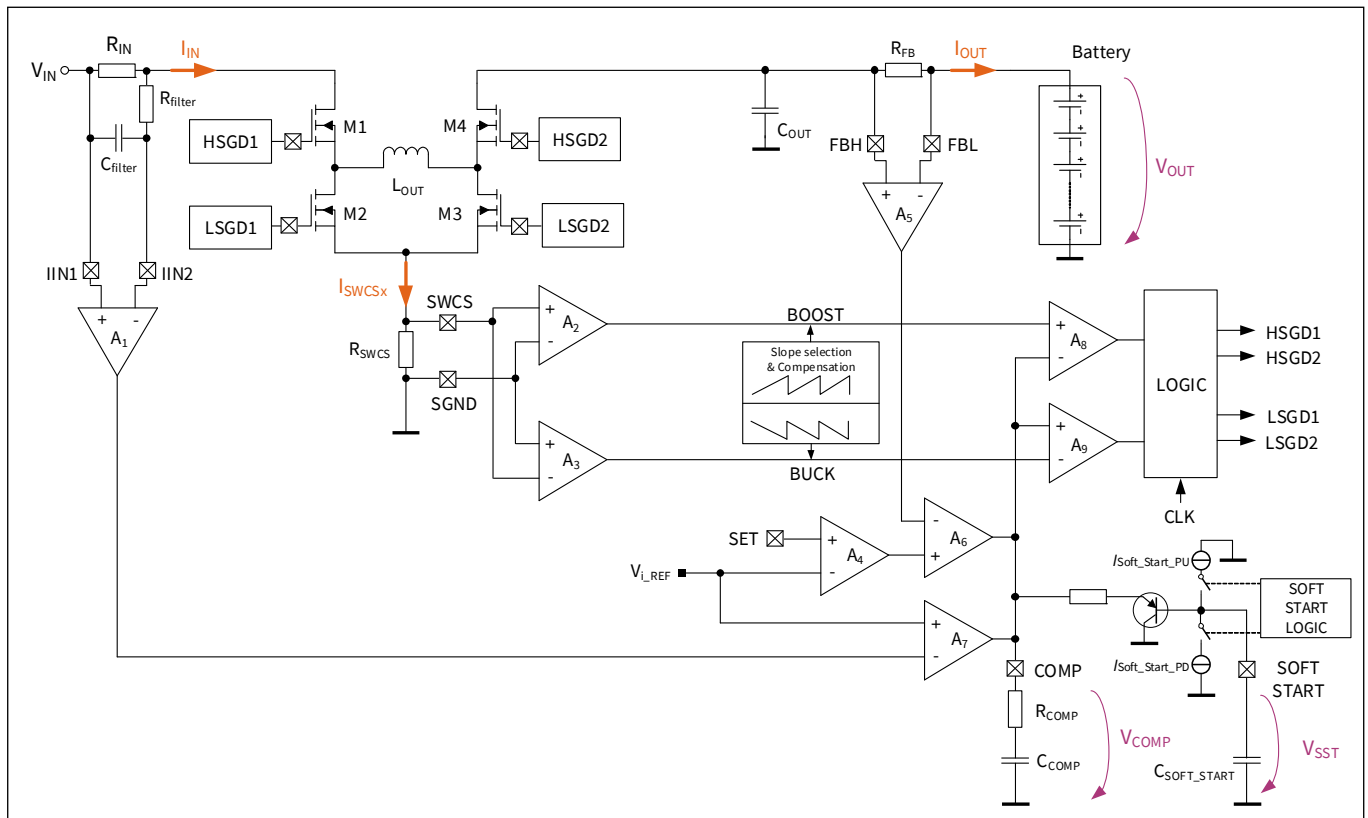
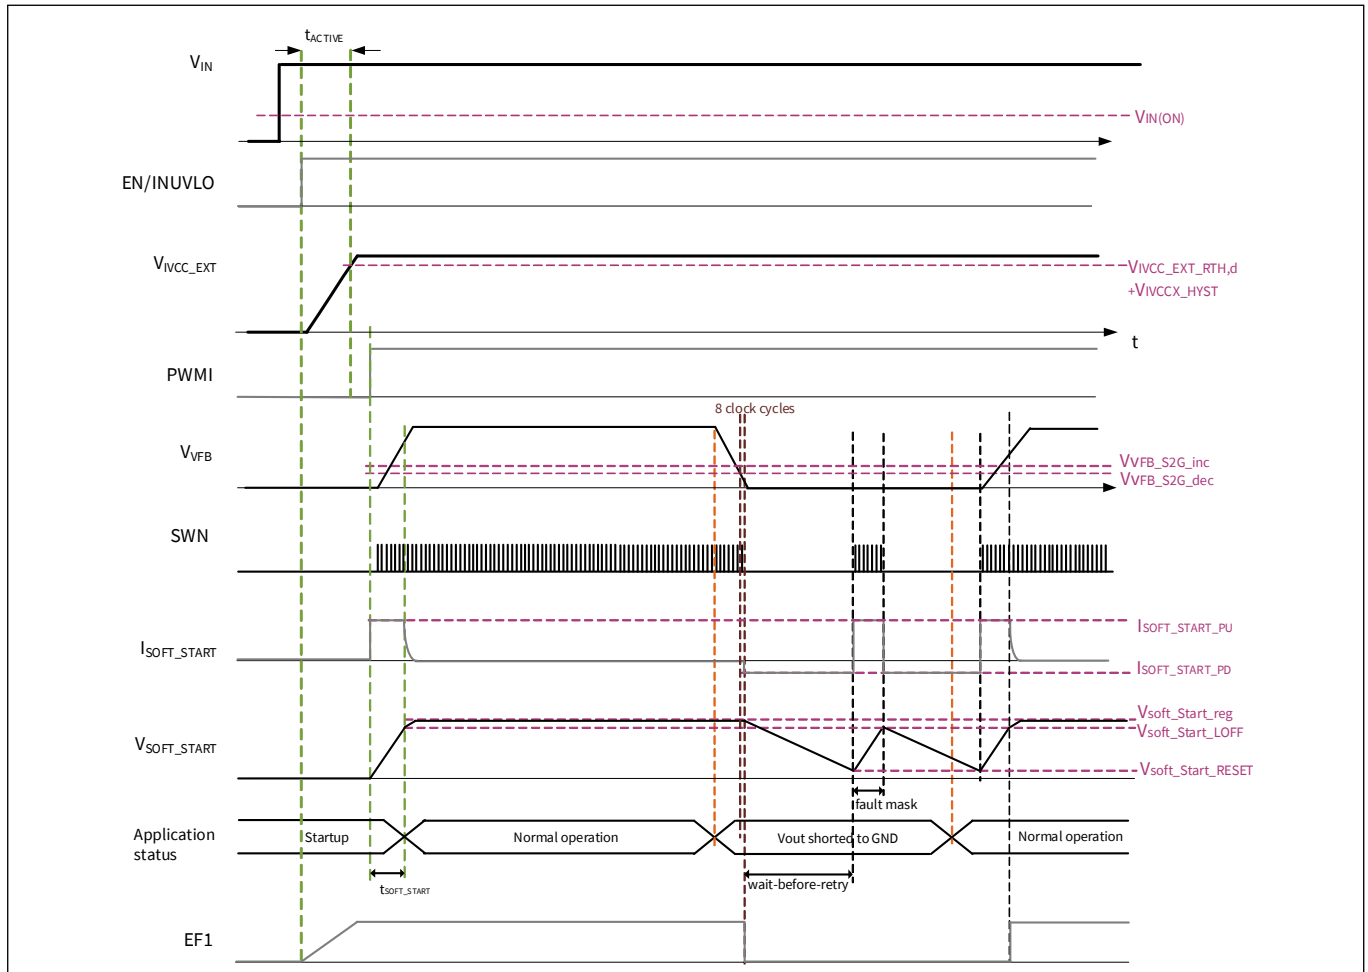
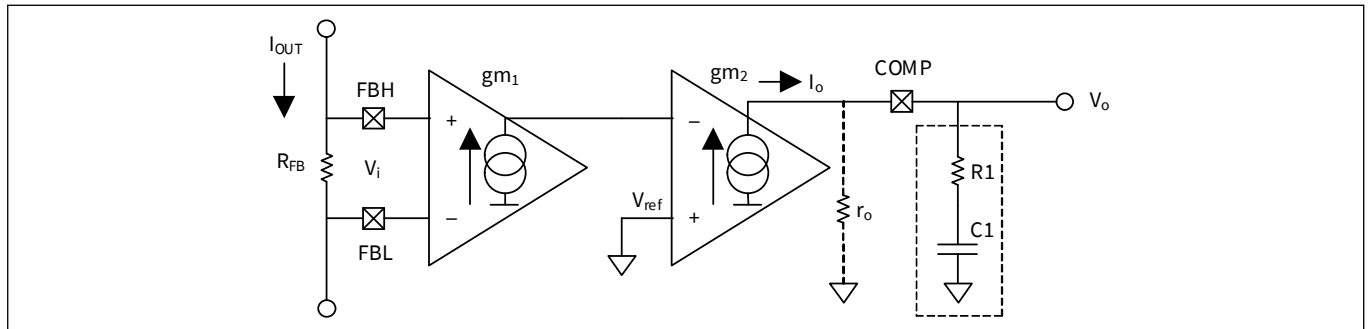
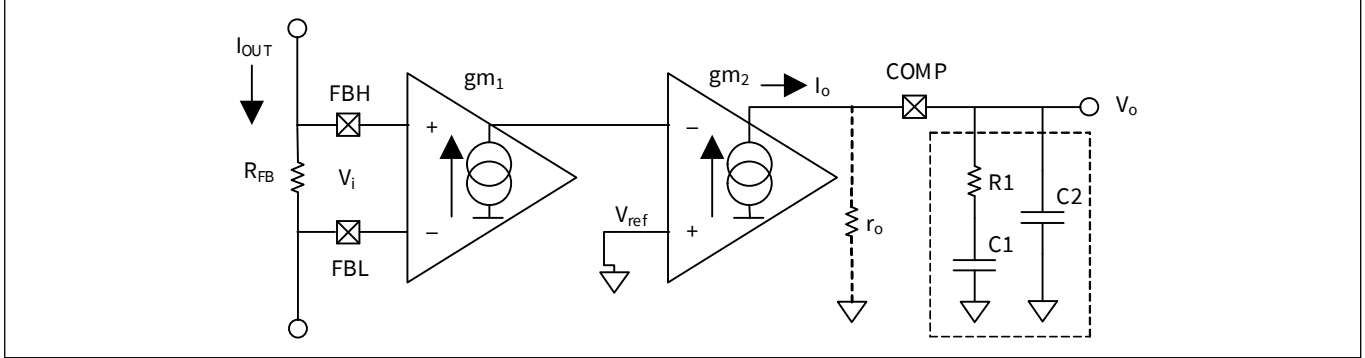

Figure 3 Buck-boost control system block diagram
Figure 4 Soft start timing diagram on a short to ground detected by the VFB pin
Figure 5 Type-I compensator
Figure 6 Type- II compensator
The control system includes all of the functions necessary to provide constant current to the output, which is commonly used in a battery charging application, as shown in Figure 3. It is designed to control four gate-driver outputs in a H-bridge topology, utilizing a single inductor and four external MOSFETs. This topology is able to operate in high power BOOST, BUCK-BOOST, and BUCK mode applications with maximum efficiency. The transition between the different control modes is done automatically by the device itself, with respect to the application boundary conditions. The transition phase between modes is seamless.
- The buck-boost controller includes two analog current control inputs (IIN1, IIN2) to limit the maximum input current (block A1 and A7 in **Figure 3**)
- The control loop block diagram displayed in **Figure 3** shows a typical constant current application. The voltage across R_{FB} sets the output current. R_{IN} is used to fix the maximum input current
Note The device provides flexible current sense option at the output to enable both high-side and low-side current sensing configurations. **Figure 3** shows R_{FB} shunt resistor connected between FBH and FBL pins for a high-side current sensing.
- Fault management by setting fault mask and wait-before-retry time (**Figure 4**)
- Limit input inrush current and output overshoots by limiting V_{COMP} (**Figure 3**) in the Boost mode
The soft-start routine is active during the rising and falling edges of the V_{SST} (**Figure 3**). The soft-start timing is defined by a capacitor placed at the SOFT_START pin and the pull-up and pull-down current sources ($I_{\text{SOFT_START_PU}}$, $I_{\text{SOFT_START_PD}}$). The minimum value for soft-start capacitor has to be designed such that, during startup, the output voltage exceeds the short to ground threshold (VFB pin exceeds $V_{\text{VFB_S2G_INC}}$), before the soft-start voltage reaches $V_{\text{SOFT_START_LOFF}}$. The minimum temperature and minimum input voltage shall be considered as the worst-case condition for previously mentioned dimensioning.
The soft-start routine limits the inrush current by clamping the COMP pin through a buffer as in **Figure 3**. Therefore, this functionality is effective only when soft-start capacitor is sufficiently larger than the COMP capacitor and its effect is visible mainly in buck-boost and boost regulation mode. If an open load or a short circuit on the output is detected, a pull-down current source $I_{\text{SOFT_START_PD}}$ (**P_6.4.20**) is activated. This current brings down the $V_{\text{SOFT_START}}$ until $V_{\text{SOFT_START_RESET}}$ (**P_6.4.22**) is reached. Afterwards, the pull-up current source $I_{\text{SOFT_START_PU}}$ (**P_6.4.19**) turns on again. If the fault condition hasn't been removed until $V_{\text{SOFT_START_LOFF}}$ (**P_6.4.21**) is reached, the pull-down current source turns back on again, initiating a new cycle. During the soft-start rise time the device is switching, during fall time the device is halted (**Figure 4**). This hiccup mode will continue until the fault is removed. It is possible to latch the fault condition by sourcing a current higher than $I_{\text{SOFT_START_PD}}$, through a pull-up resistor connected from VREF to the SOFT_START pin. In this condition the device will restart regulating only if EN/INUVLO pin is toggled. If an input overvoltage is detected, the SOFT_START pin is kept low by discharging $C_{\text{SOFT_START}}$ as long as the overvoltage remains.
The analog control loop for output current regulation can be tuned to get the required performance characteristics such as transient response and steady state response, as per the application requirements. This is achieved by connecting suitable RC network at the COMP pin of EZ-PD™ PMG1-B2, which forms the compensation network. Both time domain and frequency domain response of the system can be tuned using the compensation network. See Figure 3 for more details.
Figure 5 shows the small-signal AC model of the feedback error amplifier used for deriving the transfer function of the compensator. Here, r_o is the output impedance of the operational transconductance amplifiers (OTA) which is in the range of $M\Omega$. $R1$ and $C1$ externally connected in series at COMP pin form the compensation network. $IFB \times g_m$ is the total transconductance of OTAs in the output current control loop.
The Type-II compensator design uses an additional parallel capacitor C2 as shown in Figure 6, which results an additional pole in the control loop. This allows more flexibility to tune the response of the control loop compared to a Type-I compensator.
Note **Figure 5** and **Figure 6** show only the control signal flow from output current sense amplifier to the compensation node. In reality, the compensation node voltage is also affected by the input current sense amplifier (A1 and A7 in **Figure 3**) which is used for input current limiting.
The analog control feature allows a linear control of the output current. This approach is used to control the output current based on an analog reference input voltage applied at SET pin of EZ-PD™ PMG1-B2 controller. The analog control feature adjusts the average load current level via the control of the feedback error amplifier voltage ($V_{FBH-FBL}$). The SET pin is used to adjust the mean output current. The range of V_{SET} input voltage where analog control is enabled is from 0.2 V to 1.5 V, with an almost linear relation throughout this range as shown in Figure 4. The output current is directly proportional to the feedback voltage $V_{FBH-FBL}$.
Note If V_{SET} is 200 mV (typical), the output current is only determined by the internal offset voltages of the comparators. Therefore, to assure the switching activity is stopped and $I_{OUT} = 0$, V_{SET} has to be < 100 mV as shown in Figure 4.
2. Optionally, a temperature sensitive resistor (thermistor) can be connected in the voltage divider network to protect the load from thermal destruction. This is achieved by automatically adjusting the load current-based on the change in temperature, independent of the microcontroller. The value of the series resistor R_{SET1} of the voltage divider must be set such that the V_{SET} voltage remains within the range of 0.2 V to 1.5 V for the entire operating temperature range, as shown in Figure 4